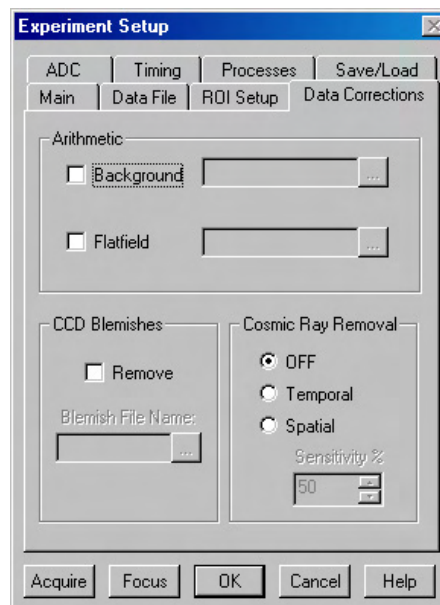

Figure 49. Data Corrections tab page
4. On the **Data Corrections** tab page (Figure 49) all of the correction functions should be OFF.